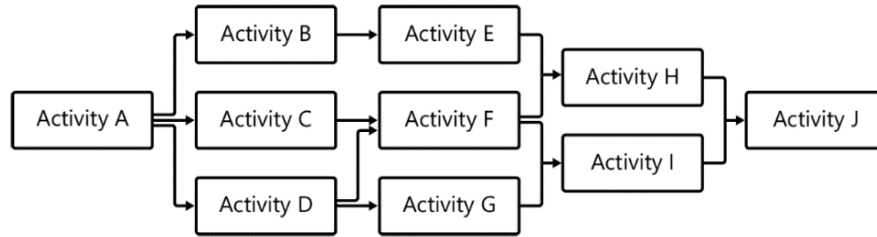

FIGURE 4-7 Activity-on-node network diagram.
Figure 4-7 shows what an Activity-on-node (AON) network diagram might look like at the end of the sequencing process. Information about each activity is represented in the nodes on the diagram, and the arrows indicate the relationship between the activities. In this case they are all finish-to-start (FS) relationships. The activity-on-node (AON) diagram is the most popular graphical way of representing a network diagram but there is another less intuitive way called the activity-on-arrow (AOA) diagram.